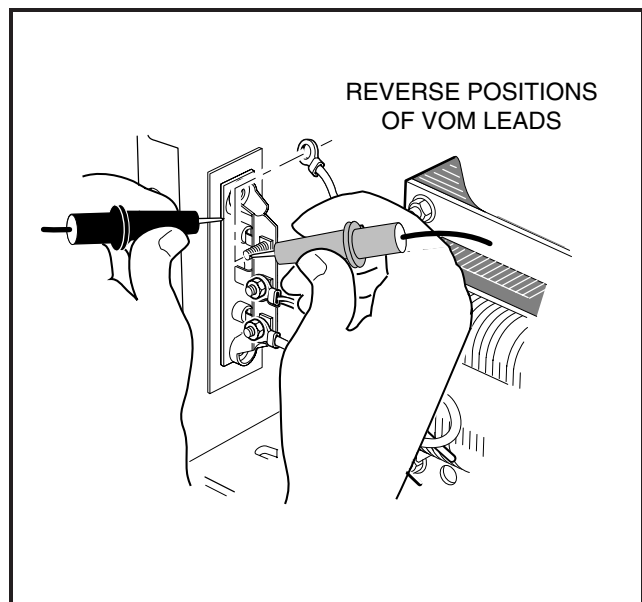

FIGURE 19-10
4. Reverse the tester leads and check each diode again and note the reading (**Figure 19-10**). A diode is designed to conduct current in one direction only; if a diode conducts current (shows continuity) in both directions, the complete rectifier assembly with diodes must be replaced. If a diode does not conduct current (does not show continuity) in either direction, the complete rectifier assembly must be replaced.